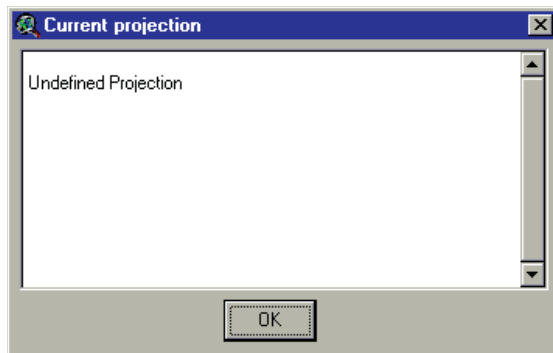

Figure 15.14
8. The units for the X-Y and Z resolutions should be set to meters. To define the projection, click the projection button . A prompt box will appear listing projection details for the DEM (Figure 15.14).